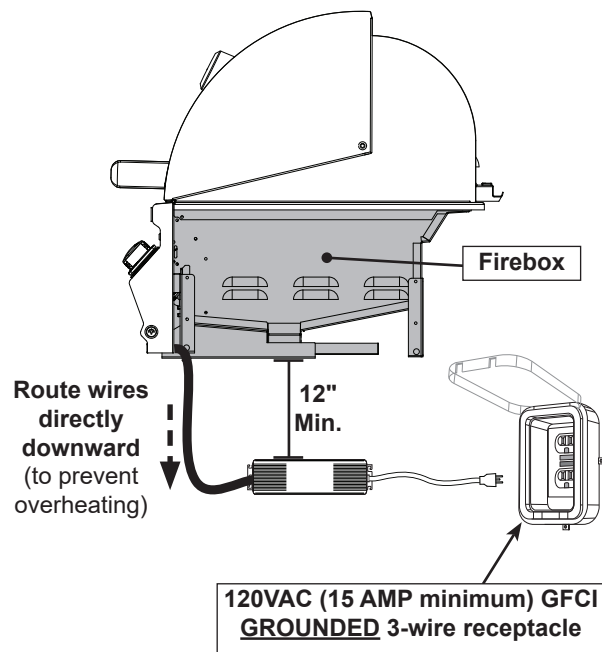

Fig. 26-1 Electrical installation
1. Route the power supply below the control panel and directly downward. This will prevent overheating. **DO NOT** route the harness below the unit firebox. See Fig. 26-1.
- located at least **12"** below the bottom of the unit (see Fig. 26-1)